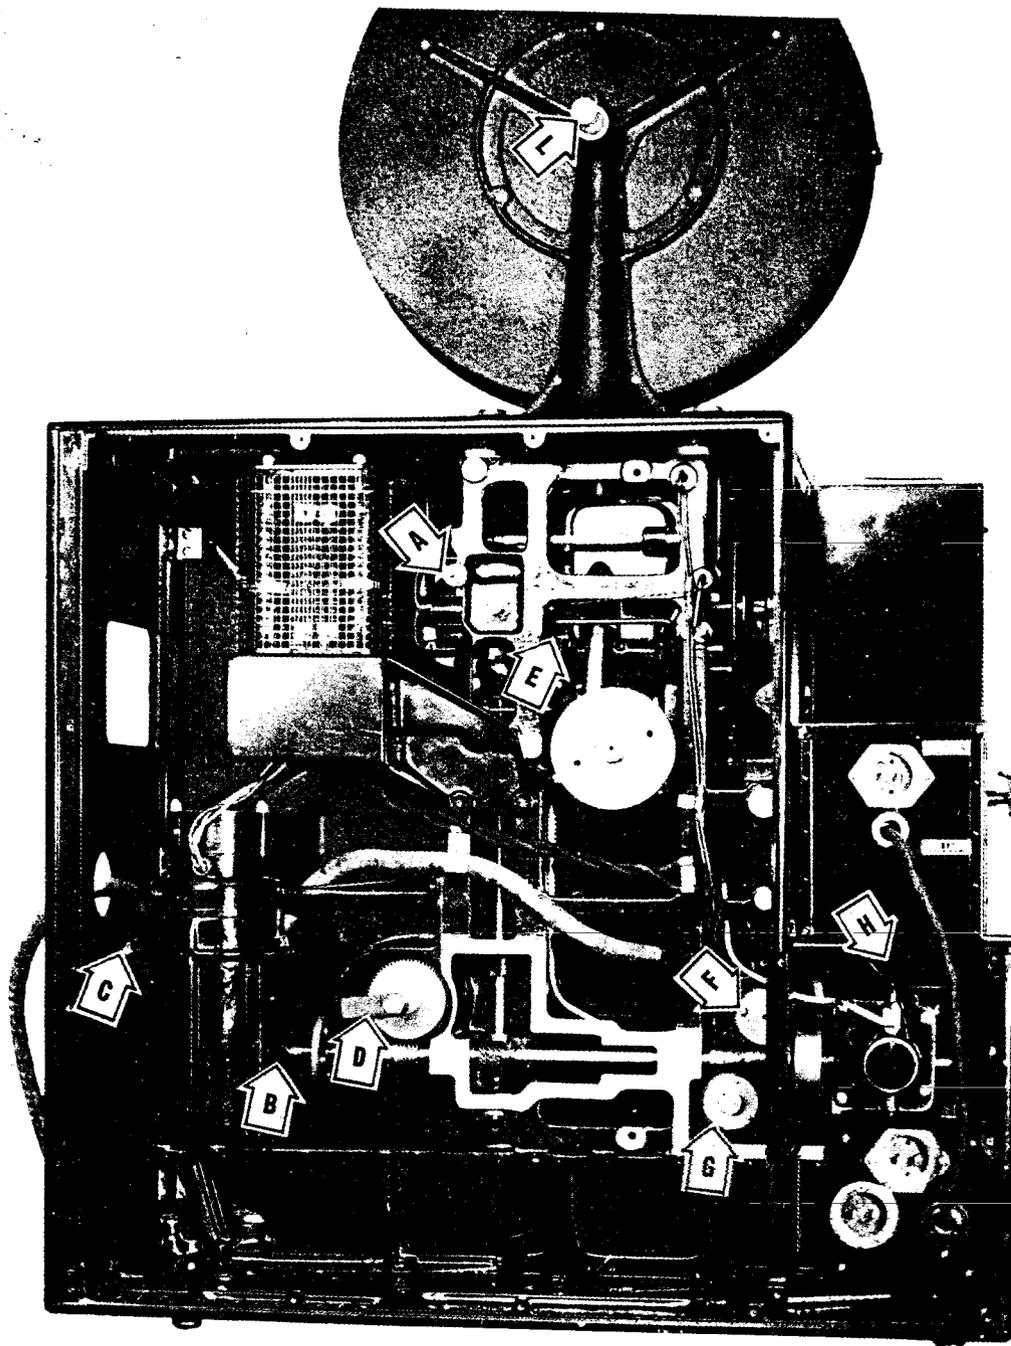

FIGURE 28.
is shown at "E" in Figure 28. Whenever the fire shutter is tripped by this safety device, it is necessary to stop the motor and bring the projector to a full stop. The trip is then automatically reset and the fire shutter will open normally when the motor is again started.
* The motors on SPU type projectors ordinarily do not require attention oftener than once a year, assuming that they have seen heavy service during this period. At this time the gear box ("B" in Figure 28) should be checked and fresh grease added. The filling screw (painted red) may be located by removing the lower magazine (remove the four screws visible in Figure 26). Fill with the light gear grease commonly used for oscillating elec-